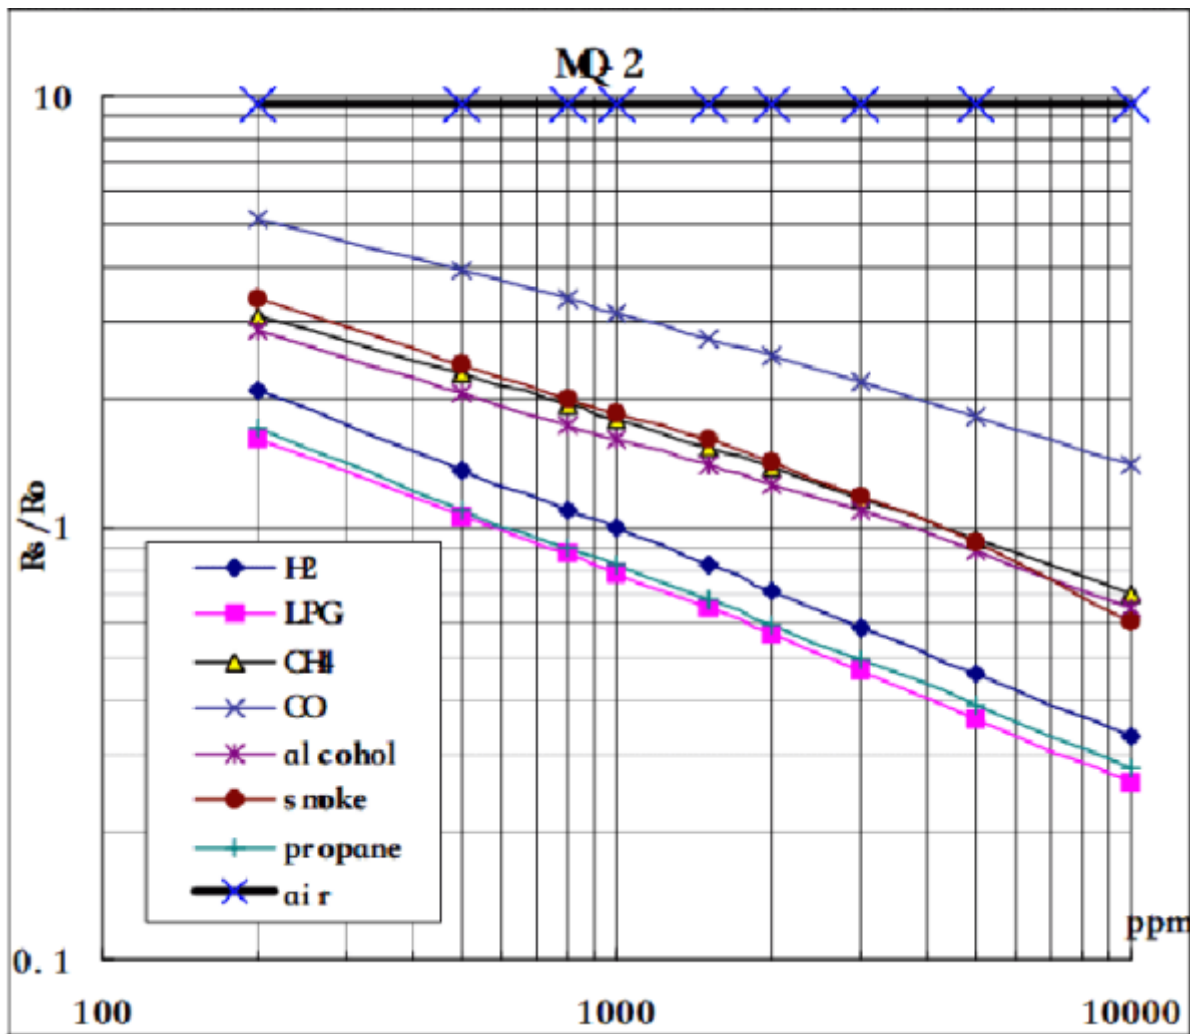

Figure 2.5 MQ2 Sensitivity characteristics. Source: <https://www.mouser.com/datasheet/2/321/605-00008-MQ-2-Datasheet-370464.pdf>
- Specified in Figure 2.5 and in the specifications of the manufacturer, the sensor can only read gas concentrations between 200 and 10000ppm.